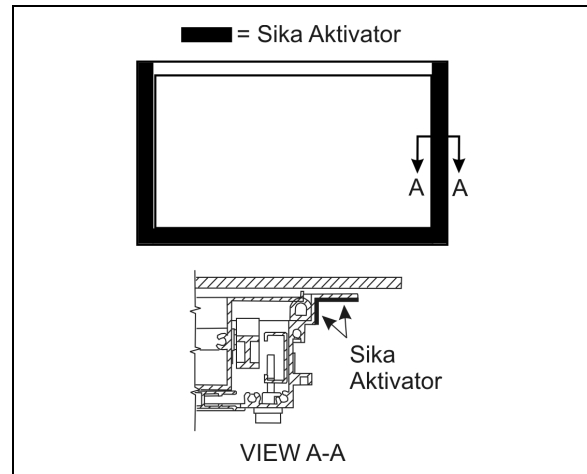

FIGURE 65 : AWNING WINDOW – SIKI AKTIVATOR
6. Apply Sika Aktivator as per FIGURE 65.